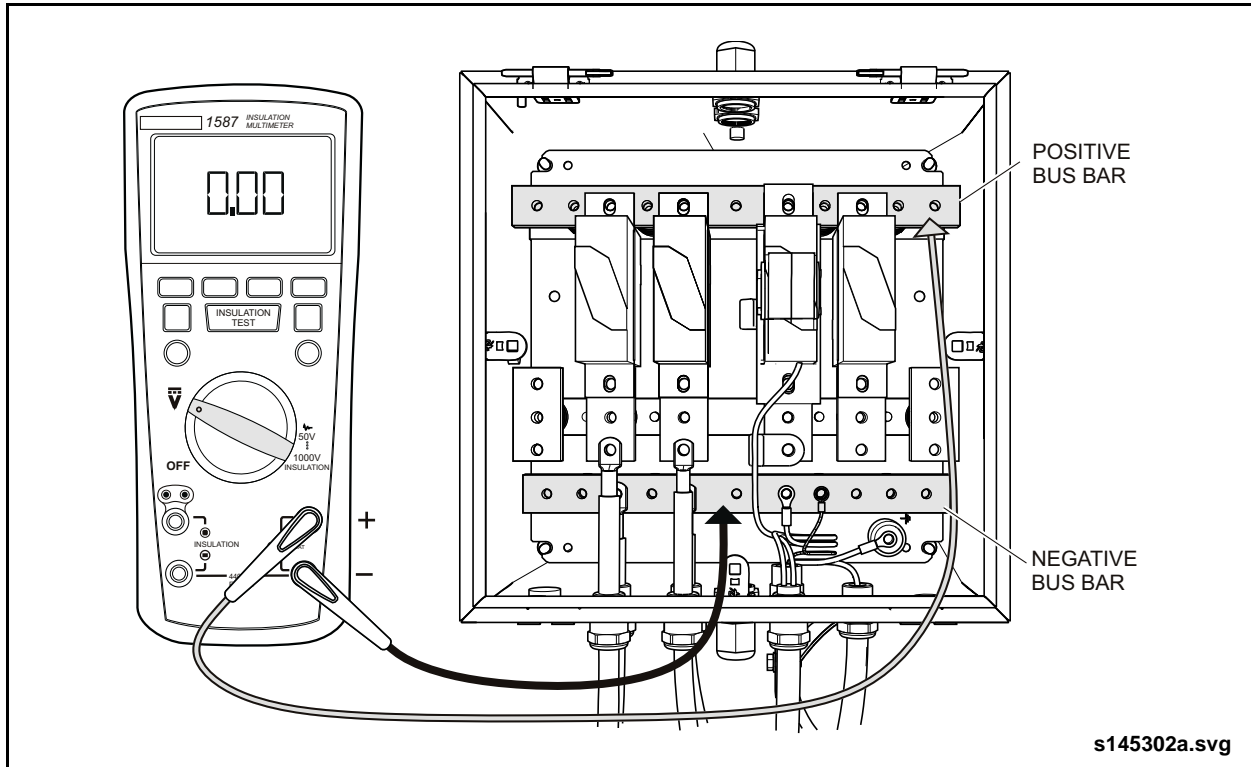

Fig. 10: High Voltage Verification - 1
- a. Measure from the positive bus bar to the negative bus bar. See “Fig. 10: High Voltage Verification - 1” on page 9.